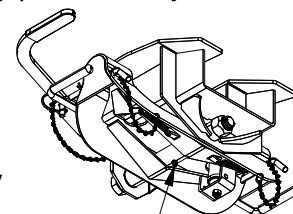

Figure H1: Underside view of coupler.
- Grease the saddle through the grease zerk approximately every six months with multi-purpose grease. This allows the coupler to pivot freely, see Figure H1.